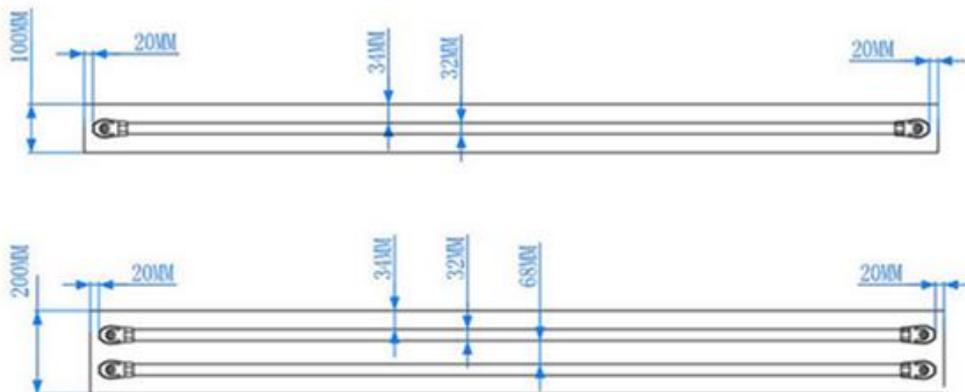

Fig.1
- 1) As shown in Fig.1, please install the track and the curtain box in accordance with the following instructions.